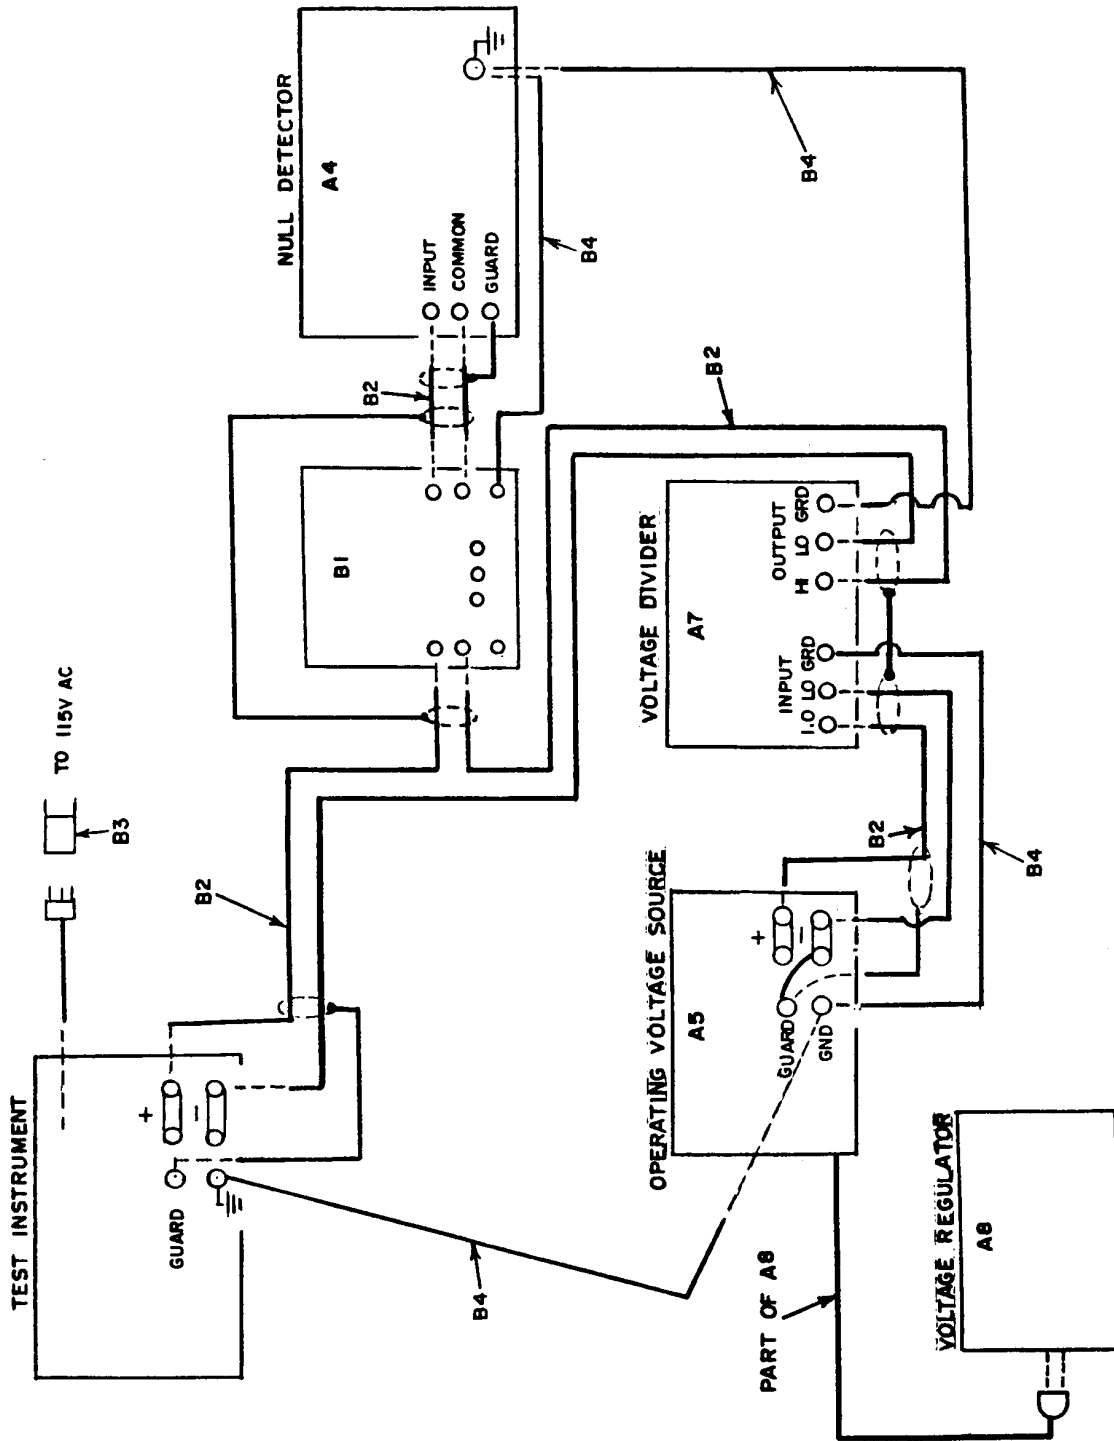

Figure 4. High voltage - equipment setup.
- (17) Set dc transfer standard for a 10-volt mean output.
- (18) Position TI controls as listed in **(a)** through **(c)** below:
- (19) Adjust TI voltage dials for a null indication on null detector.
(20) If TI voltage dials do not indicate between 99.99698 and 100.00302, perform **b(4)** and (5) below.
(21) If TI voltage dials are within tolerance but not exactly 100.00000, perform **b(6)** below:
(22) Set TI POWER switch to STANDBY/RESET.
(23) Connect equipment as shown in figure 4.
(24) Set voltage divider to .1000000.
(25) Set operating voltage source (A5) VOLTAGE RANGE switch to 1000 and voltage dials to 1000.0000.
(26) Set TI and operating voltage source POWER switches to ON.
(27) Adjust operating voltage source voltage dials for a null indication on null detector.
(28) Set TI and operating voltage source POWER switches to STANDBY/RESET.
(29) Set voltage divider to .999999X.
(30) Set TI VOLTAGE RANGE switch to 1000 and voltage dials to 1000.0000.
(31) Set TI and operating voltage source POWER switches to ON.
(32) Adjust TI voltage dials for a null indication on null detector.
(33) If TI voltage dials do not indicate between 999.9699 and 1000.0300, perform **b(1)** and (8) below.